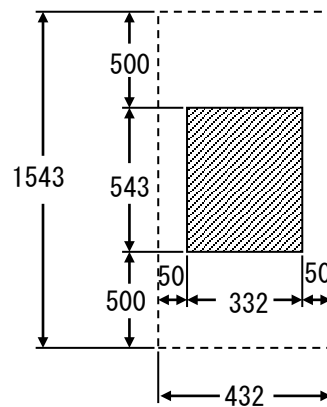

Figure 3-1 Maintenance Space(Unit: mm)
3. Leave the spaces as shown in Figure 3-1 to make the following maintenance processes easier;